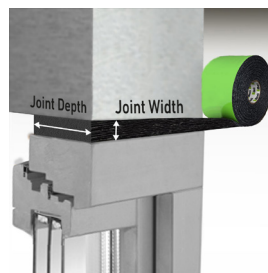

Figure 1: The joint width should be in the middle of the operational area. The opening and joint width tolerances should be taken into account
- Select the tape dimensions according to the table after determining the window frame depth and joint width (Fig 1).